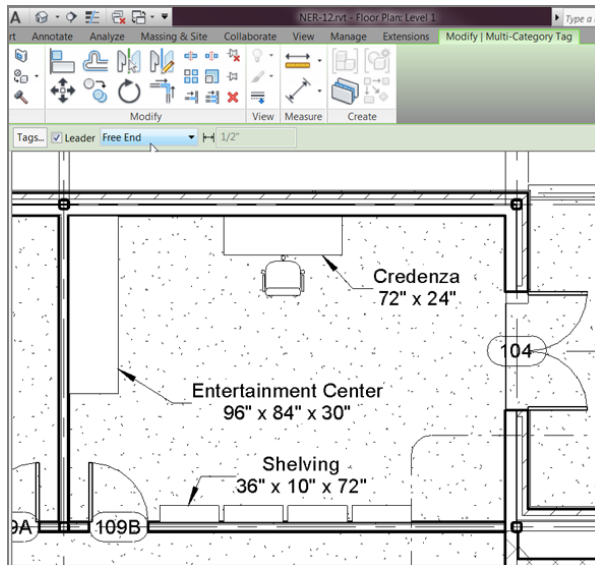

FIGURE 11.82: Adding the multi-category tag to the entertainment unit. Make sure you adjust the tag to show the information unobscured.
14. On the Options bar, select the Leader option, as shown in Figure 11.82.
15. Again, on the Options bar, select Free End (see Figure 11.82).
16. Hover your mouse over the furniture items shown in the room in Figure 11.82. The tag reports the information for any item over which you hover. Pick the entertainment unit to the left of the room, and then pick two points to the right of the unit.
21. Using the grips on the tag, move it out of the way, and adjust the leader so it looks like the one in Figure 11.82.
22. Add another tag to the credenza located on the north wall. Adjust this tag as well (see Figure 11.82).
23. Add one more tag to the shelving on the south wall of the room, and adjust the leader so it looks acceptable (again, see Figure 11.82).